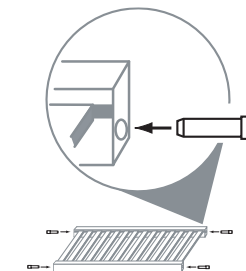
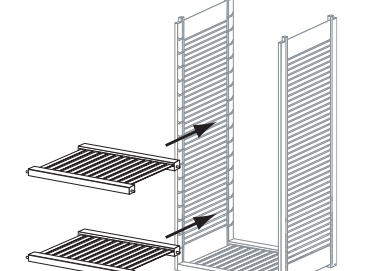

FIG. 8.0
FIG. 8.1
- Insert pins into locations on (G) shelves. (Fig. 8.0)
- For (G) shelves obtained from cut lengths, use drilling instructions provided. (See Adjustable Shelf Pin Placement Instructions located on parts page.)
- Place (G) shelves at desired locations in Shelf Tower (Fig. 8.1)